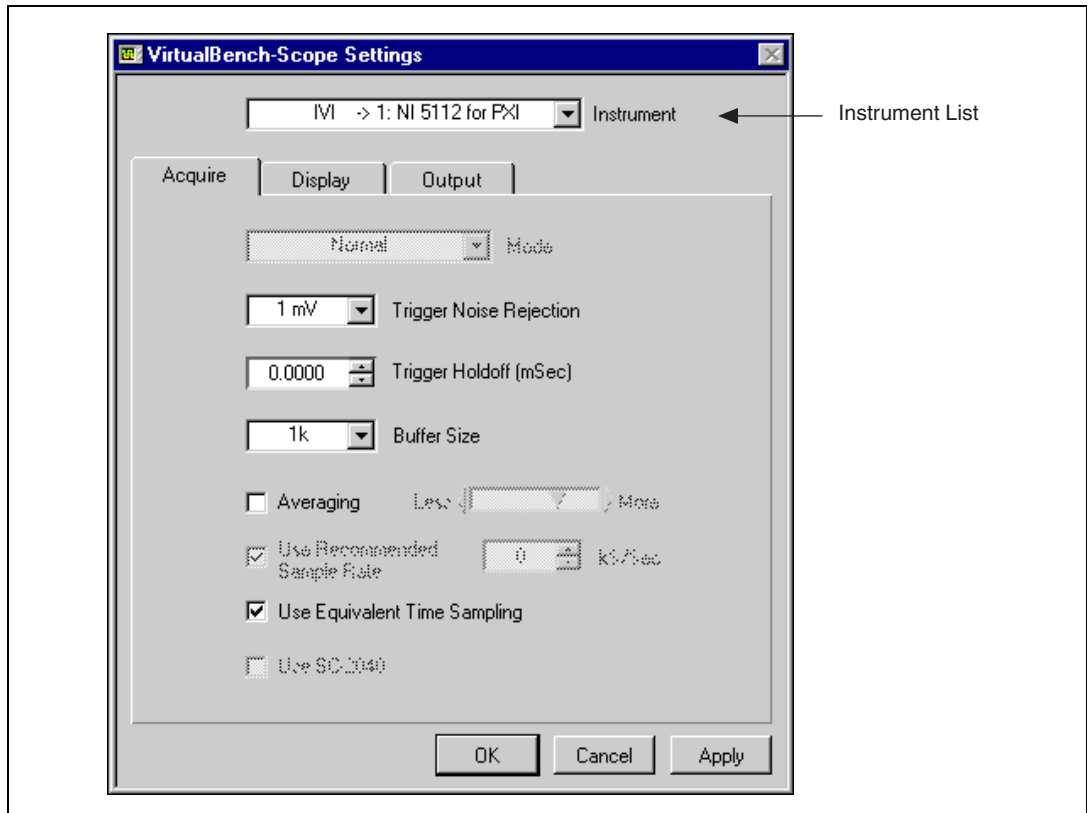

Figure 1-3. Acquire Tab of VirtualBench-Scope Settings Dialog Box
The following sections explain how to make connections to your NI 5112 and take simple measurements using the VirtualBench-Scope soft front panel, as shown in Figure 1-3 later in this chapter. To launch the soft front panel, select **Start» Programs» National Instruments SCOPE» VirtualBench-Scope**.
- b. **Select NI 5112 from the** instrument list as shown in Figure 1-3. If NI 5112 is not in the device list, make sure you have properly configured the device using Measurement & Automation Explorer (MAX). For more information on how to configure your NI 5112 in MAX, refer to the *Where to Start with Your Oscilloscope/Digitizer* documentation that shipped with your NI 5112.